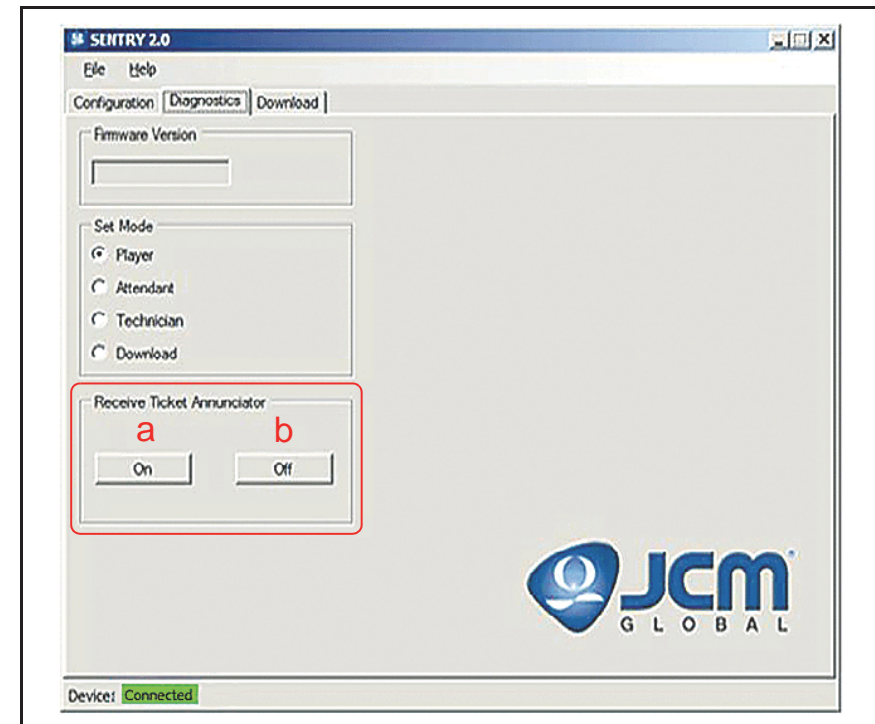

Figure 8 SENTRY 2.0 Receive Ticket Annunciator Diagnostics Screen
1. To activate this feature from the SENTRY 2.0 Configuration Screen "Diagnostics" tab, click the "Receive Ticket Annunciator On" button (Figure 8 a).
2. To disable the Receive Ticket Annunciator utility from the "Diagnostics" tab, click the "Receive Ticket Annunciator Off" button (Figure 8 b).